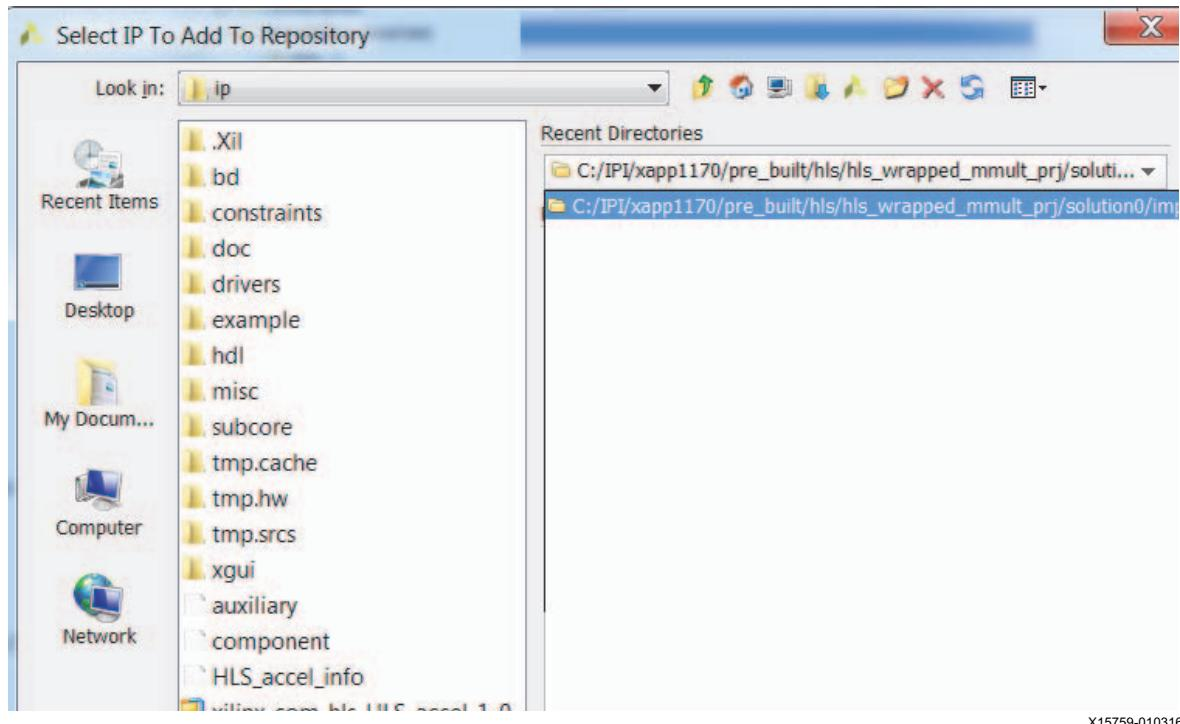

Figure 12: Add the HLS IP to the Repository
- c. Select the `xilinx_com_hls_HLS_accel_1_0.zip` file (see Figure 12).